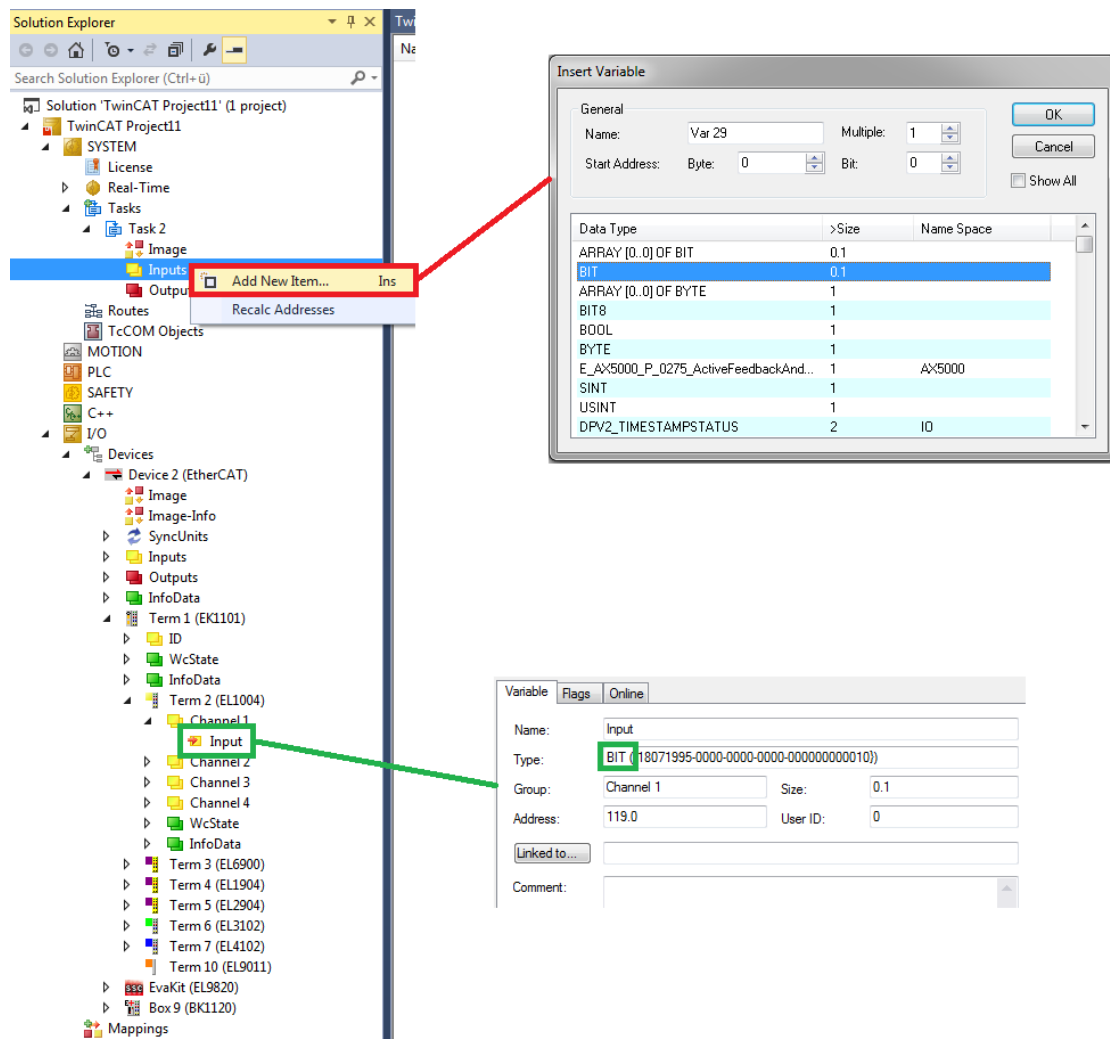

Figure 21: creating a cyclic variable in the I/O Task
- b. Manually define a cyclic Input or Output variable for the I/O Task with a datatype matching the datatype of a process data variable in the EtherCAT network: the datatype of the EtherCAT variable can be directly checked in the project (Figure 21). The name assigned to the created variable is not relevant.